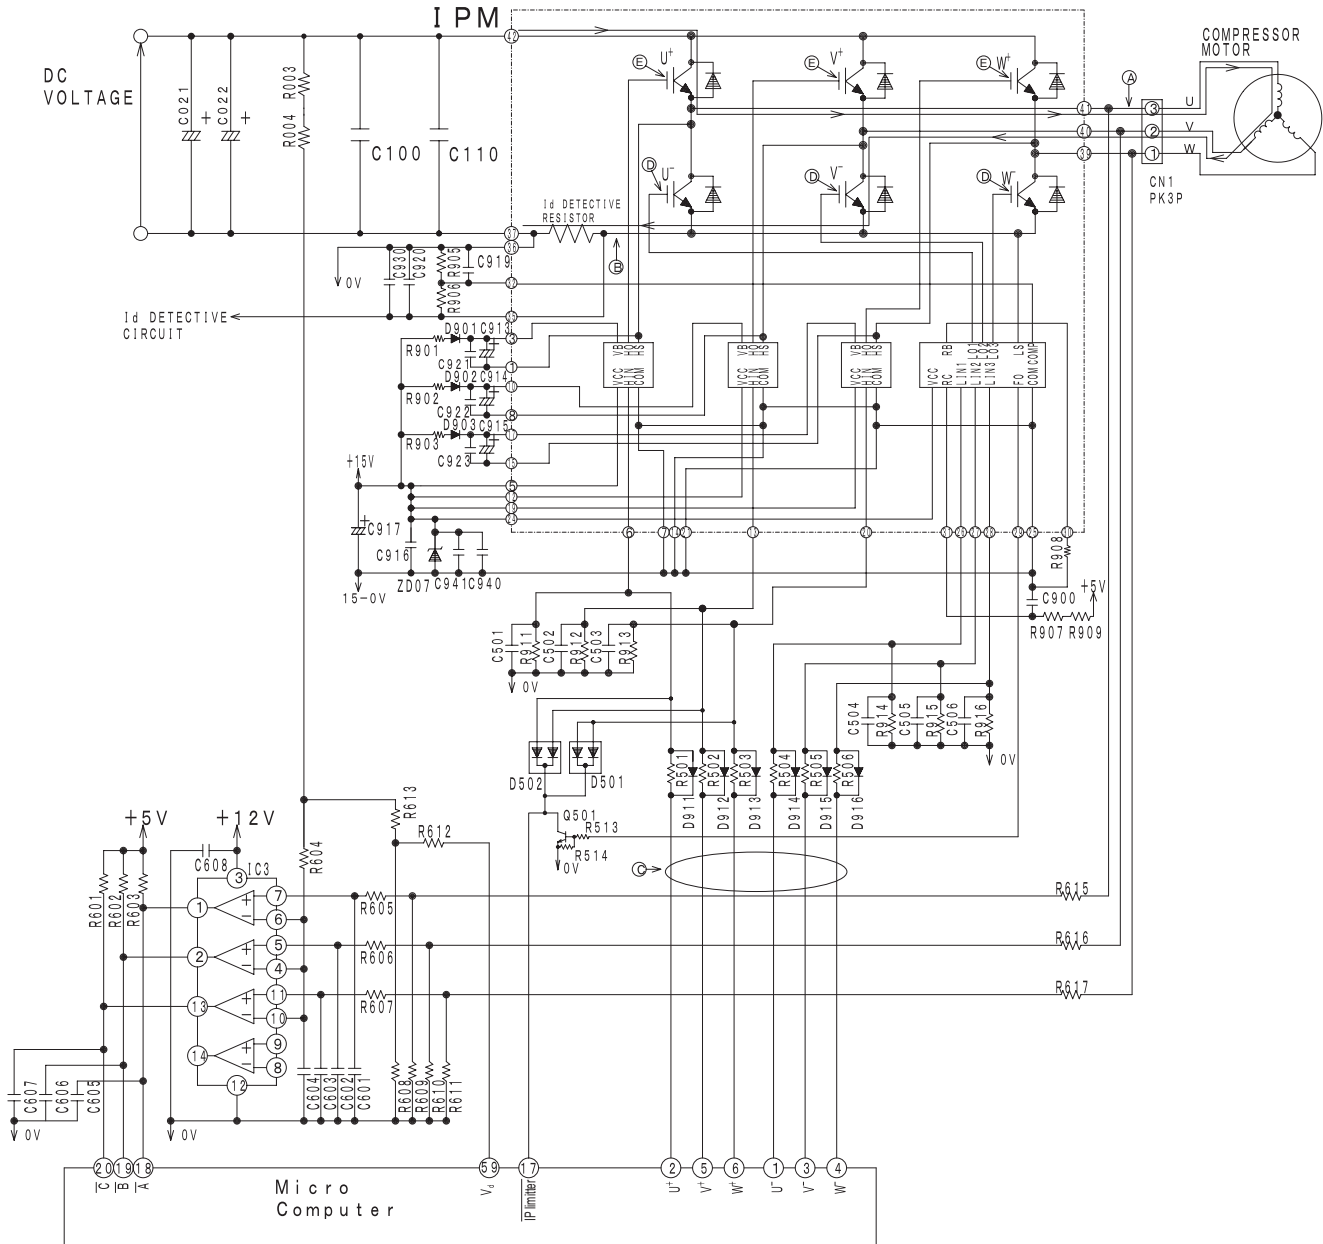
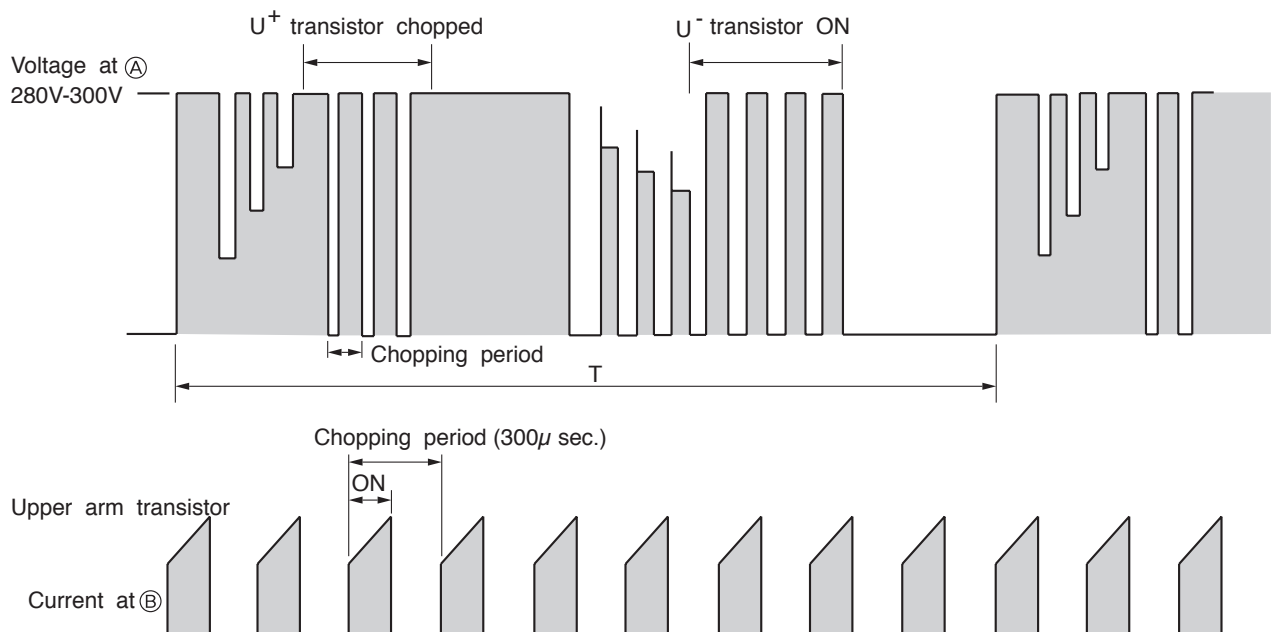

Fig. 4-1 Intelligent power module circuit (U+ is ON, V- is ON)
Fig. 4-3 Voltage waveform at each point
- Fig.4-1 shows the intelligent power module and its peripheral circuit. The three transistors on the positive (E) side are called the upper arm, and the three transistors on the negative (D) side, the lower arm.
At point ⑤: U+ is ON, V- is ON (circuit in Fig. 4-1)
Fig. 4-3 shows voltage waveform at each point shown in Figs. 4-1 and 4-4. First half of upper arm is chopper, second half is ON, and first half of lower arm is chopper, second half is ON.
- (1) When U+ transistor is ON: U+ transistor → U coil → V coil → V- transistor → DC current detection resistor → Point ③ (Fig. 4-1)
Since current flows at point ③ only when U+ transistor and V- transistor are ON, the current waveform at point ③ becomes intermittent waveform as shown in Fig. 4-3. Since current at point ③ is approximately proportional to the input current of the air conditioner, input current is controlled by using DC current (Id) detection resistor.